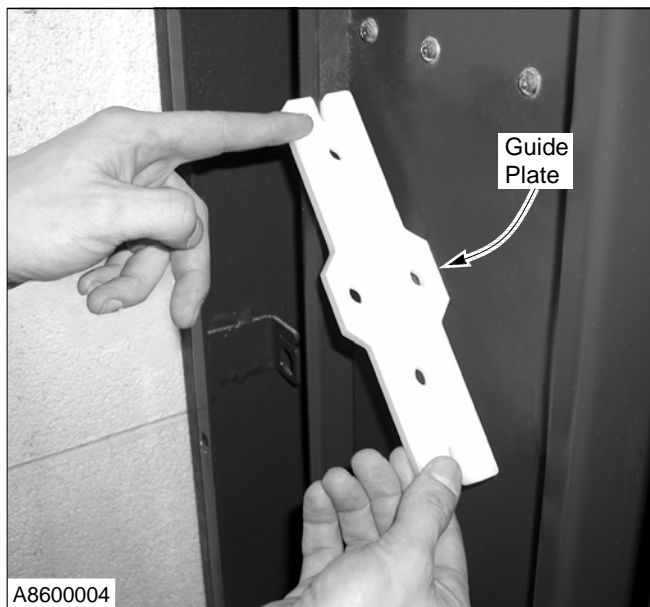

Figure 16
3. Install counterweight guide plate toward the rear of the column. (See Figure 16.)